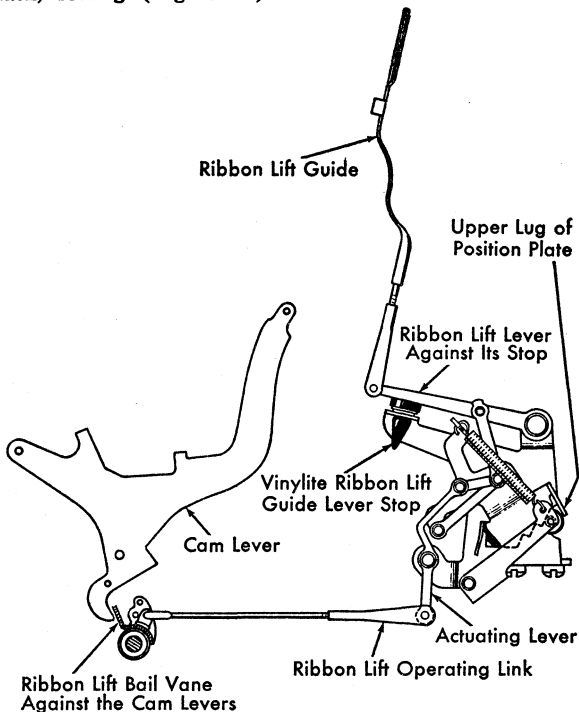

Figure 61. Ribbon Lift Mechanism
2. **THE RIBBON LIFT OPERATING LINK** (Figure 61) should be adjusted as follows:
3. RIBBON LIFT GUIDE CLEVIS. Adjust this so that the tops of the tallest characters strike $1/32''$ below the upper edge of the ribbon when the ribbon is at its lowest, or black, setting (Figure 61).
4. THE UPPER LUG on the positioning plate is formed so that the underscore prints $1/32''$ above the bottom edge of the ribbon when the ribbon lift is at its highest, or red setting (Figure 61). Check this at impression 0 and 10.